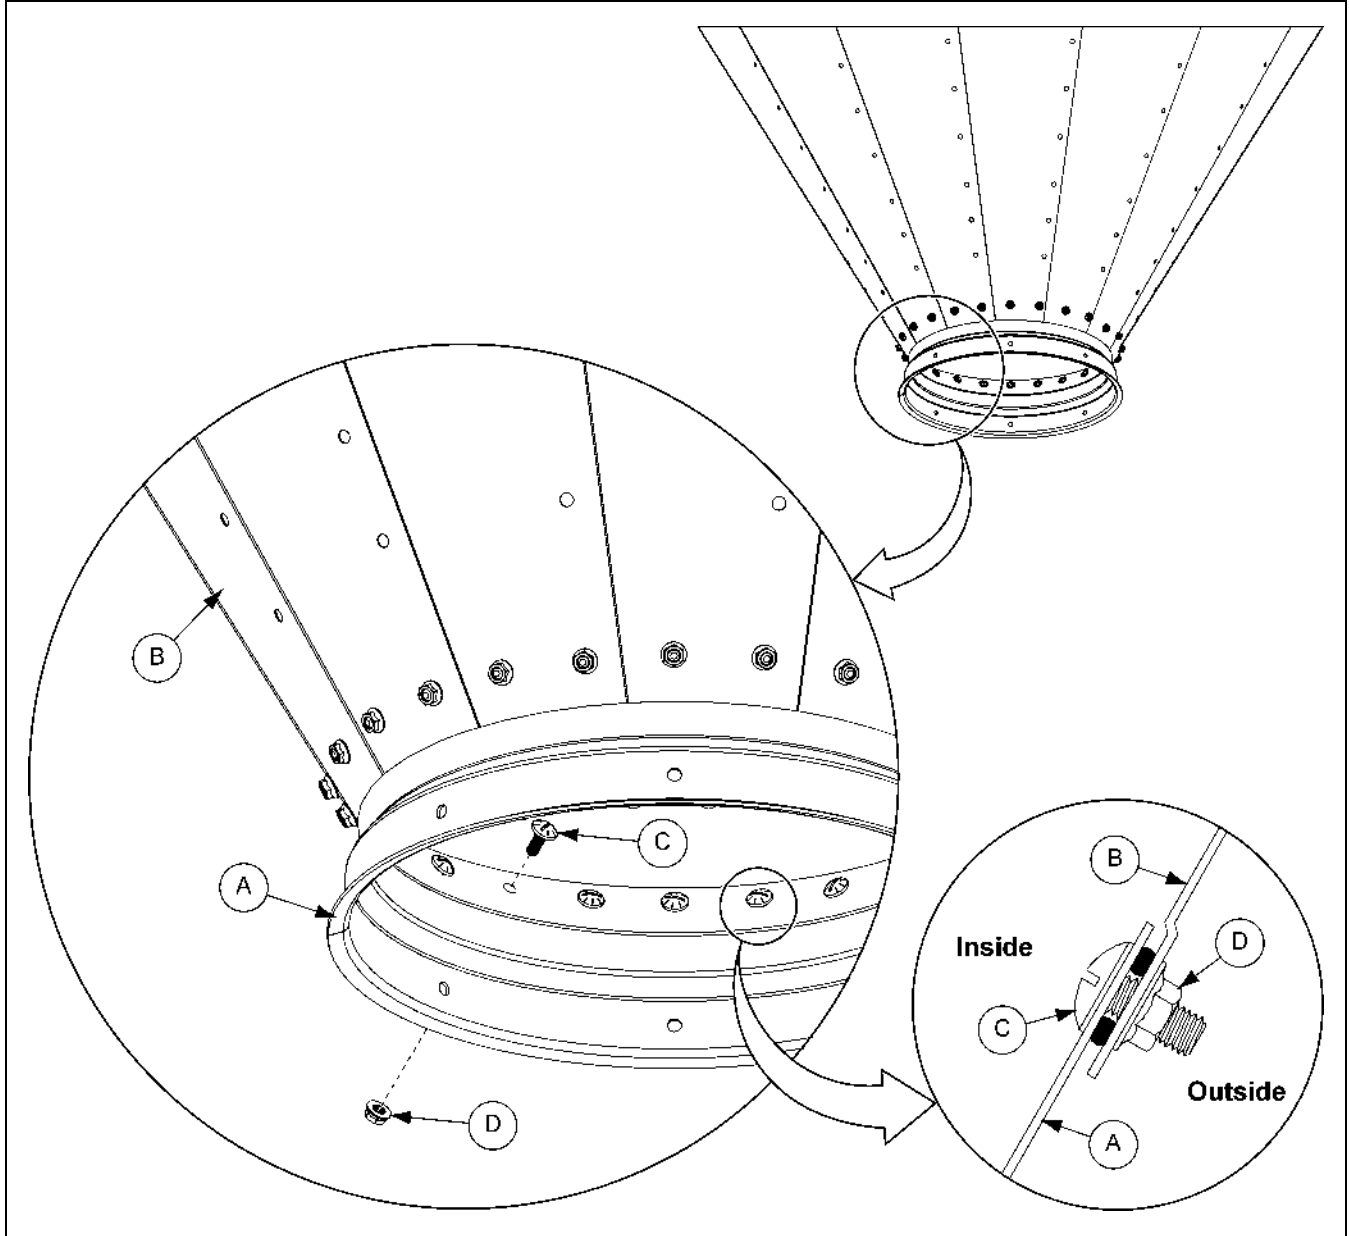

Figure 11R Attaching the Collar to the Hopper Panel (12' Tanks Only)
1. Install the top of the collar (A) to the hopper panels (B) using 5/16" x 1" truss head bolts (C) and 5/16" flange nuts (D). (See Figure 11R.)